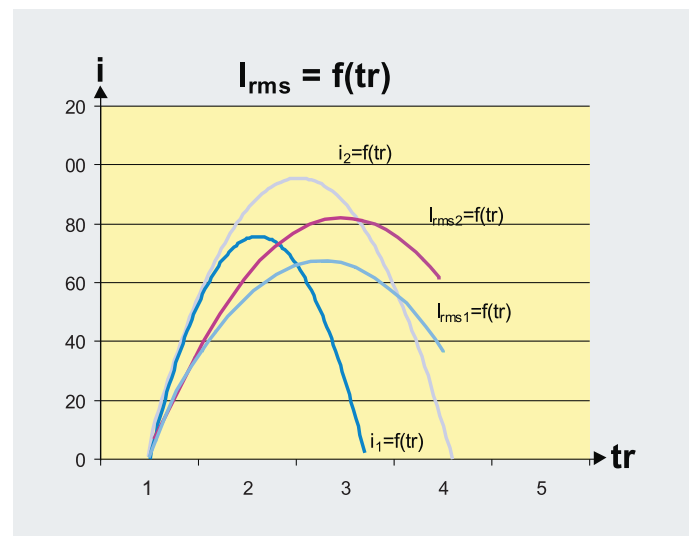

Figure 2
- First, the actual overload/short-circuit current must be known, either in the form of a curve — see Fig. 2,  $I_1=f(t)$  and  $I_2=f(t)$  - or as an equation.